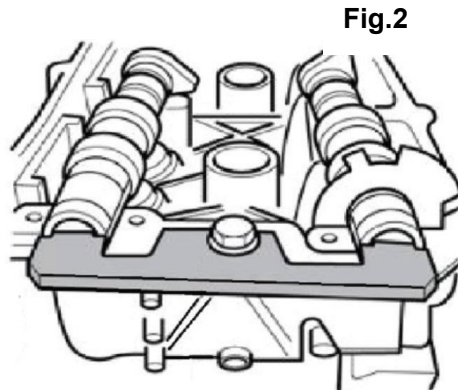

Fig.2
2. Camshaft alignment gauge, for aligning the camshaft at TDC position .(Fig.2)